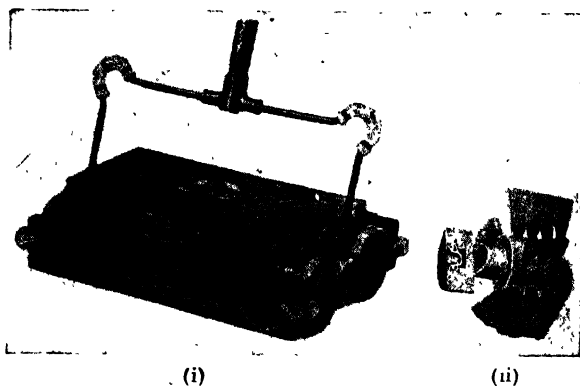

FIG. 25. A CARPET SWEEPER.
placed between the axle and the hub, and these roll round as the axle turns. The wheels of roller skates, and the pedals and wheels of a bicycle contain ball bearings. Fig. 25 shows how they facilitate easy running in a carpet sweeper.
Nowadays there is a great deal of talk about atomic energy, which is a form of energy derived directly from changes in the structure of atoms. These changes result in the generation of *heat* which can be turned into *electrical energy*. This is how atomic power stations work. Fig. 25(A) shows the first atomic power station erected in Great Britain.